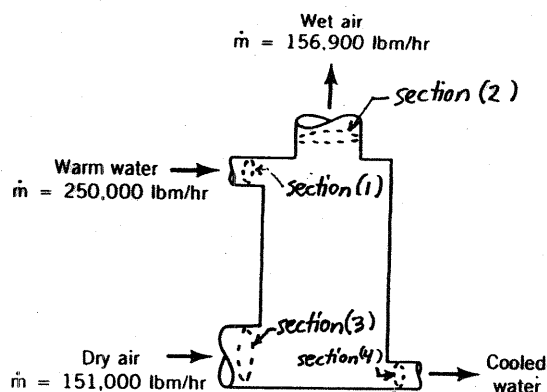

FIGURE P5.10
5.10 An evaporative cooling tower (see Fig. P5.10) is used to cool water from 110 to 80°F. Water enters the tower at a rate of 250,000 lbm/hr. Dry air (no water vapor) flows into the tower at a rate of 151,000 lbm/hr. If the rate of wet air flow out of the tower is 156,900 lbm/hr, determine the rate of water evaporation in lbm/hr and the rate of cooled water flow in lbm/hr.